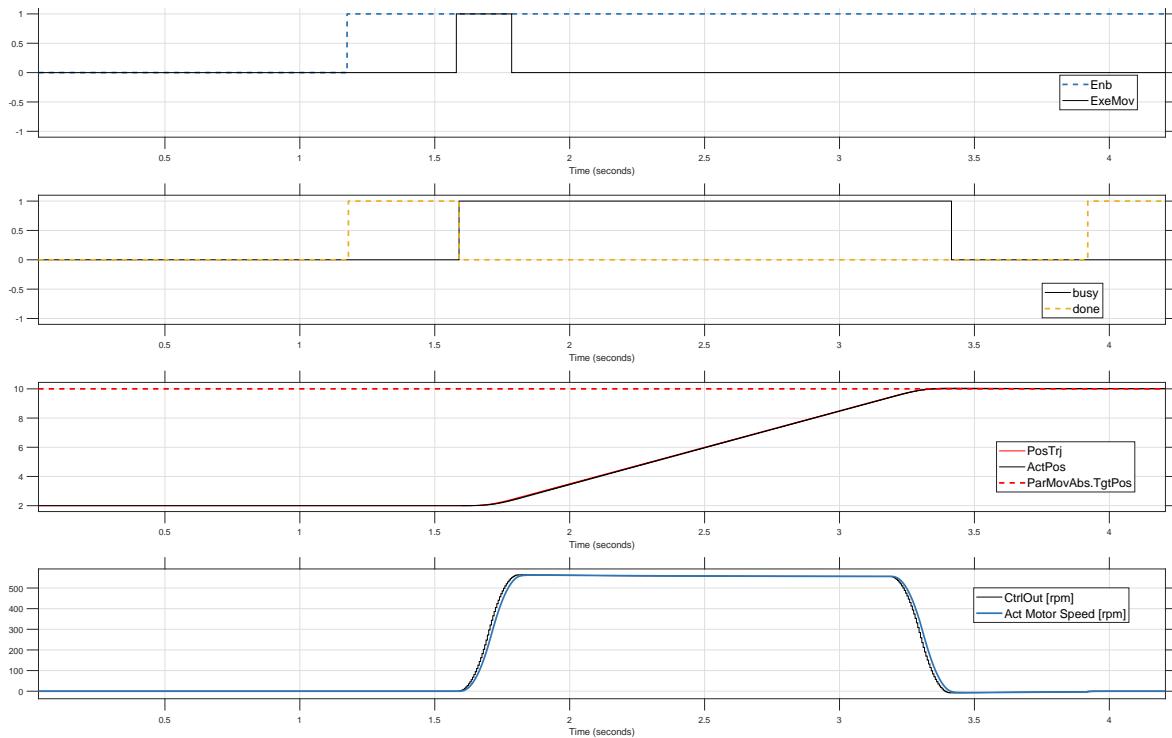

Figure 19: ($K_p = 200$, $K_i = 0.0$, $GainFwdSpdCtrl = 104.1$, $GainBwdSpdCtrl = 110.7$, $Window = 0.2mm$, $TuneTime = 0.3s$)
- Refine $GainFwdSpdCtrl$: Determine the positive feedforward gain again by observing the highest motor speed during the movement. Divide this by the set speed value ($MaxSpdSetPnt$) and update $GainFwdSpdCtrl$ with this value. See figure 19.